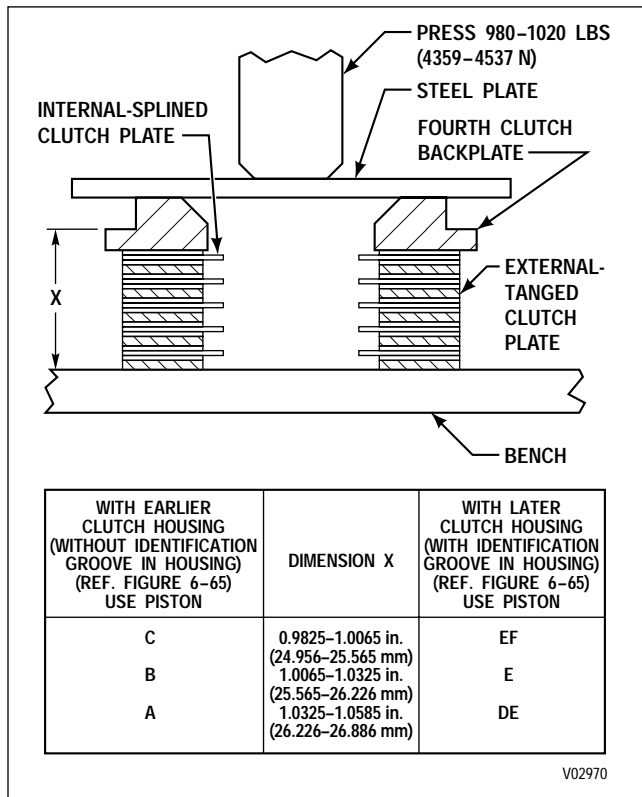

Figure 6-64. Determining Fourth Clutch Piston Thickness
(1) Stack the fourth clutch plates and back-plate as shown in Figure 6-64.
(2) Apply the specified load, and measure Dimension X.
(3) From the table in Figure 6-64, select the fourth clutch piston. Use the parts measured, and the selected piston, in the fourth clutch assembly (Paragraph 6-12c).